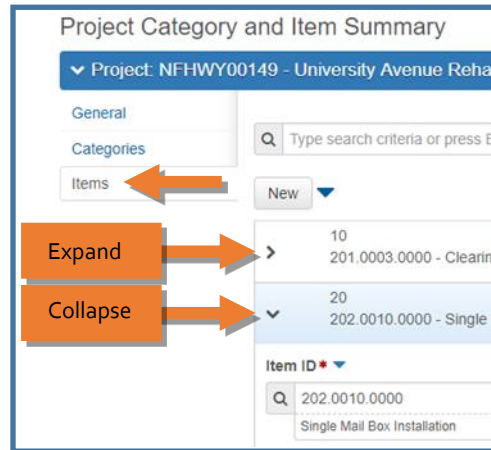

Figure 3.33
3. Select the **Items** tab (*Figure 3.33*).